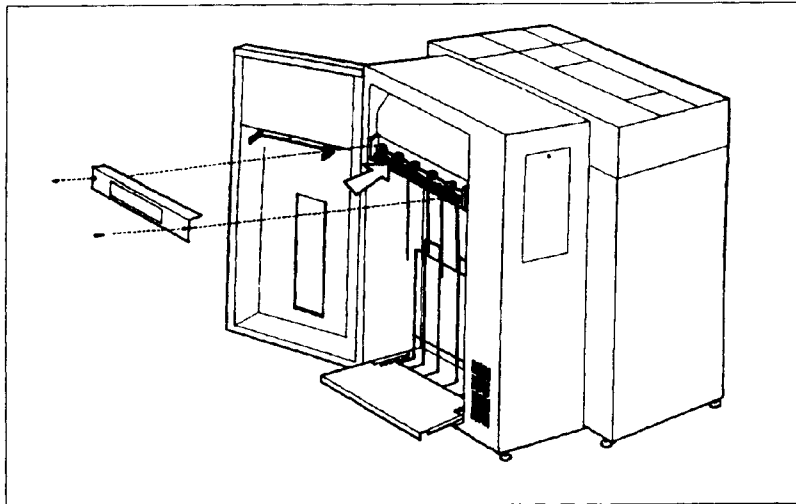

Figure 2-15. Removing the Door Chains
- m. Use a #2 Pozidrive screwdriver to remove the idler cover. Untape the bag containing the door chain assembly (Figure 2-15). Remove all tape in this area and replace the cover.